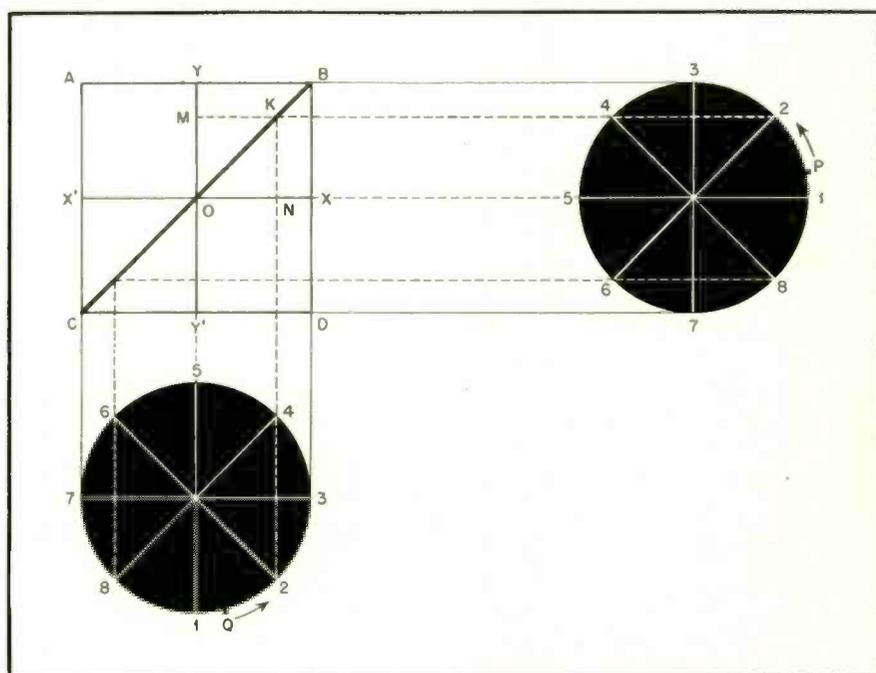

Fig. 1. Phase difference—O. Result: Line BOC.
Consider *Fig. 1*. The points *P* and *Q* describe simple harmonic motions within their respective orbits. Both move with the same angular velocity ω . The instantaneous projection of *P* is *M* and of *Q* is *N*. Both *M* and *N* execute simple harmonic motion along their respective axes *YOY'* and *XOX'*. To find the instantaneous value of the resultant point *K*, draw a perpendicular to *YOY'* through *M*, and another perpendicular to *XOX'* through *N*. The point of intersection of the two perpendiculars is the required point *K*. The numerals around the two circular orbits indicate the relative positions of *P* and *Q* at any instant and are therefore an indication of the phase difference.
The locus of the point *K* in *Fig. 1* is the line *BOC*. It is obvious from the arrangement of the numerals that the phase difference is zero. When *M* is at *O*, moving in the positive direction of *OY*, *N* is at *O* moving in the positive direction of *OX*.
which is an ellipse provided a does not equal b and ϕ is not 0 or π . Eq. (5) is the locus of point K in Fig. 1 for any arbitrary values of a , b and ϕ ; it is also the fundamental equation of this paper.
This is the equation of the straight line BOC in Fig. 1. It is easily seen that the slope of this line cannot be negative and that since it is proportional to b/a it is independent of the phase angle.